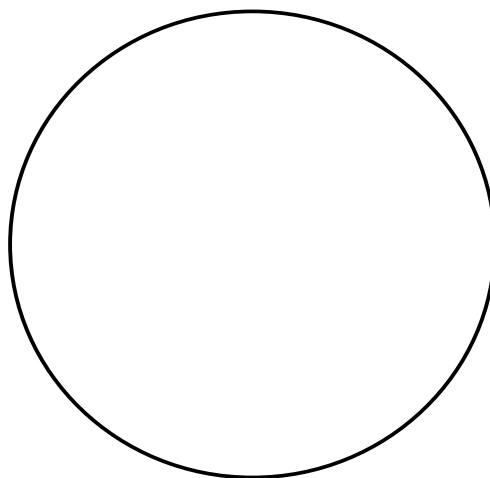

Fig. 7
19. Indicate on the circle at figure 7, the following :-